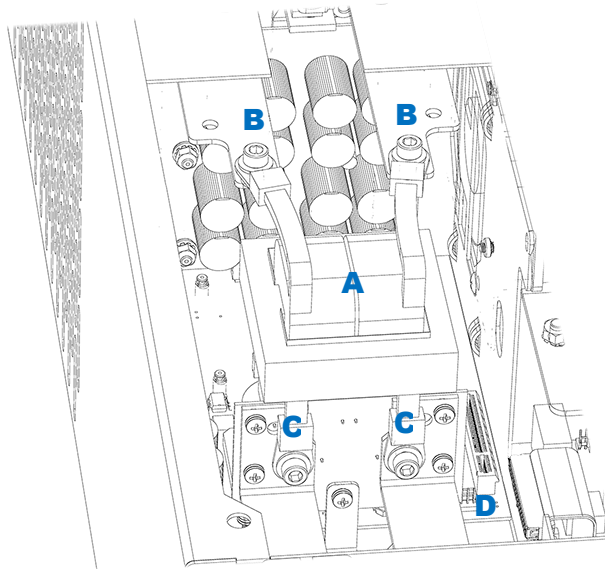

Figure 47 Common-Mode Choke
2. Remove the common-mode choke **A**. See Figure 47 for all items.
3. Remove the 4-pin connector (not depicted in Figure 47) that plugs into the carrier board at **D**.
- Replace the common-mode choke **A**. See Figure 47 for all items.